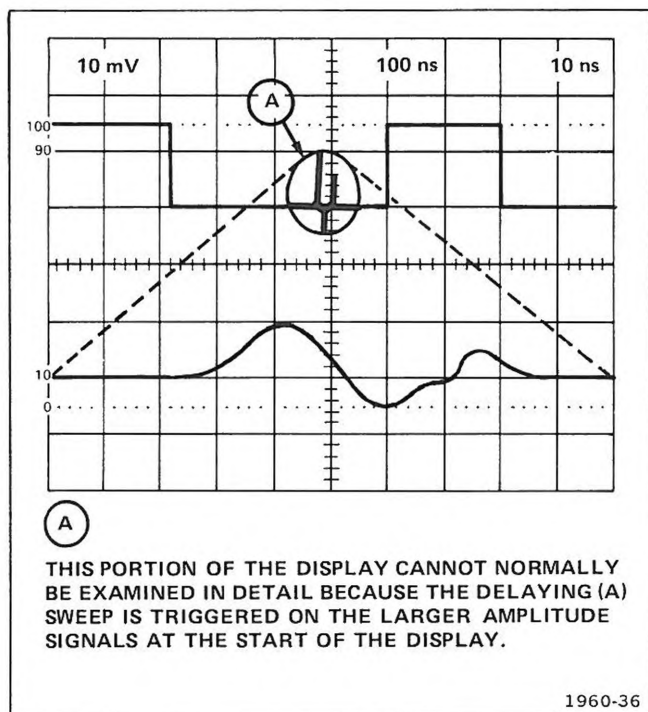

Fig. 1-10. Magnifying a selected segment of the delaying (A) sweep in the delay-time mode with mainframe alternate or chopped horizontal operation.
5. To magnify a selected segment of the delaying (A) sweep waveform and determine apparent magnification in the delay-time mode:
- Set the appropriate triggering, position, deflection-factor, and sweep-rate controls for the desired dual-trace display. See the example in Figure 1-10.
*If there is excessive jitter in the delayed (B) sweep display, refer to the Triggered Delayed Sweep Magnification discussion.*
c. Turn the DELAY TIME control to position the intensified zone to the portion of the delaying (A) sweep waveform to be magnified.
d. Set the delayed (B) sweep unit sweep rate to select the desired duration of the magnified display as indicated by the length of the intensified zone.
e. Observe the magnified display on the delayed (B) sweep. See Figure 1-10.
*For a better look at the delayed (B) sweep waveform, set the mainframe to the B horizontal mode and the amplifier-unit deflection factor to increase the display amplitude. Do not change the 7B85 TIME/DIV setting.*
f. Determine apparent magnification by dividing the 7B85 TIME/DIV setting by the delayed (B) sweep unit sweep-rate setting.
Example: The apparent magnification of the delayed (B) sweep shown in Figure 1-10 with a 7B85 TIME/DIV setting of .1 millisecond and a delayed (B) sweep unit sweep-rate setting of 1 microsecond is: